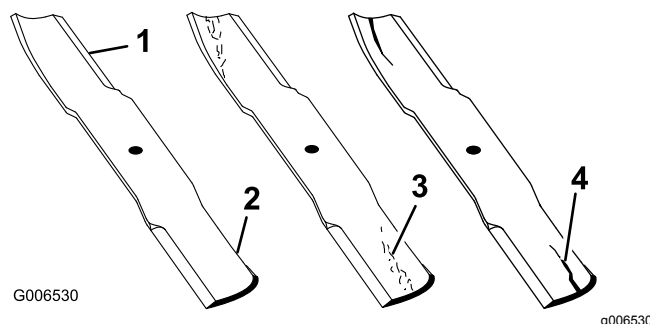

Figure 60
1. Inspect the cutting edges (Figure 60).
4. If you notice any cracks, wear, or a slot forming in this area, immediately install a new blade (Figure 60).